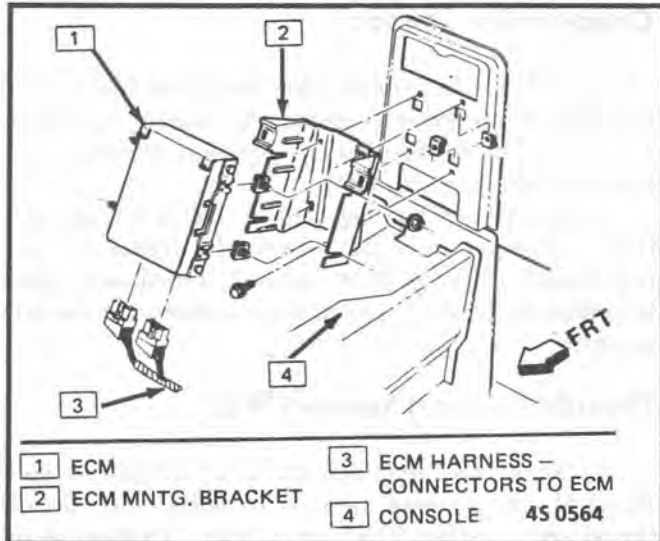

Figure C1-7 - ECM Mounting "P" Series - with A/C
4. ECM mounting hardware (Figure C1-7).